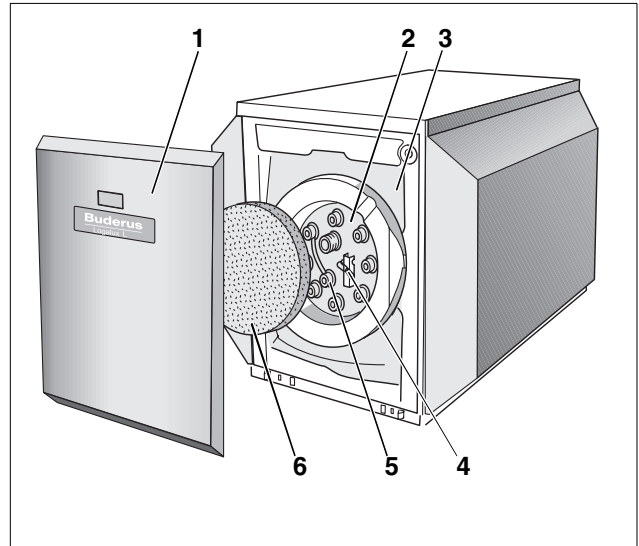

Fig. 1 Logalux L135/2 – 200/2
Corrosion protection is provided by hygienic Buderus Thermoglaze "DUOCLEAN" as well as additional cathodic protection using a magnesium anode rod (Fig. 1, **Item. 5**), which is accessible by means of the clean-out cover (Fig. 1, **Item. 2**).
- Clean-out cover (Fig. 1, **Item. 2**) for maintenance and service access.
- Insulation (Fig. 1, **Item. 3**)
The insulation consists of high density polyurethane directly attached to the tank vessel. An insulating ring (Fig. 1, **Item. 6**) reduces heat loss from the clean-out cover.
- Domestic water temperature sensor bracket (when using Buderus Logamatic control) (Fig. 1, **Item. 4**)